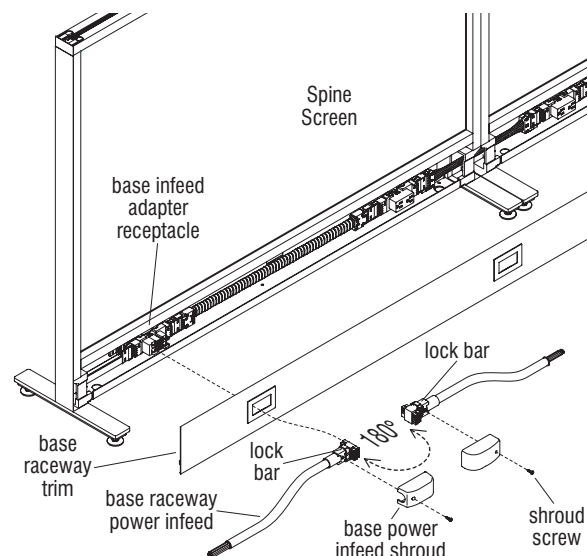

Figure 20
6. Pull up the lock bar on the plug end of the base raceway power infeed. The base infeed can be rotated 180° and installed in one of two directions. Orient the lock bar to be up, then press the base raceway power infeed to the adapter receptacle in the desired direction. Press down to snap and secure the lock bar onto the base infeed adapter receptacle on the power infeed, then place the base infeed shroud over the infeed and secure with the shroud screw provided (Figure 20 & Detail EE).